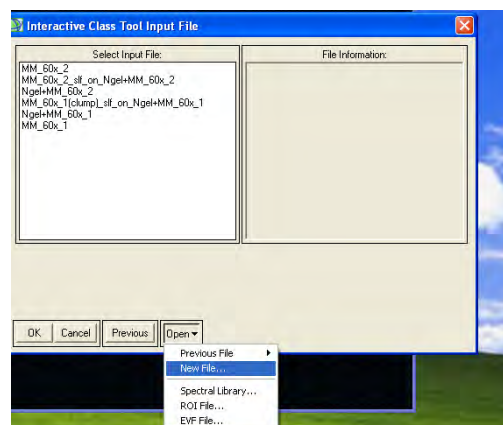

Figure 29. Interactive Class Tool Input File window
6. The Interactive Class Tool Input File window appears (see Figure 29).